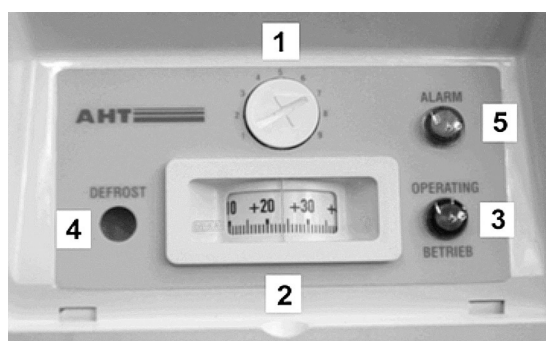

Fig. 6: Mechanical controller type MR 1 for (-) series with display and operating elements
**The mechanical temperature controller (Fig. 6–7) may contain the following display and operating elements:**